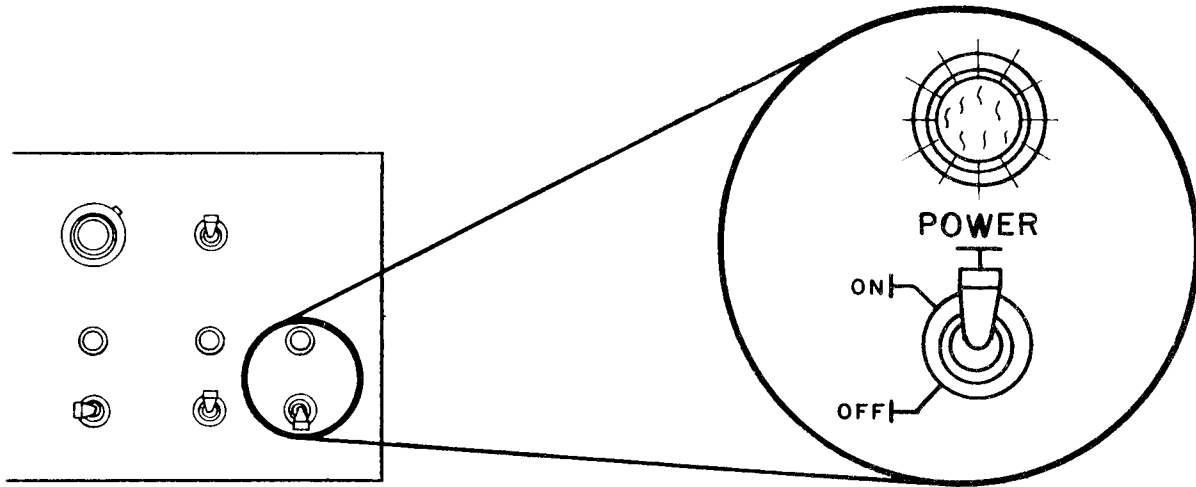

Figure 6. POWER Switch in ON Position
f. Flip the 610B POWER switch to the ON position (see Figure 6).